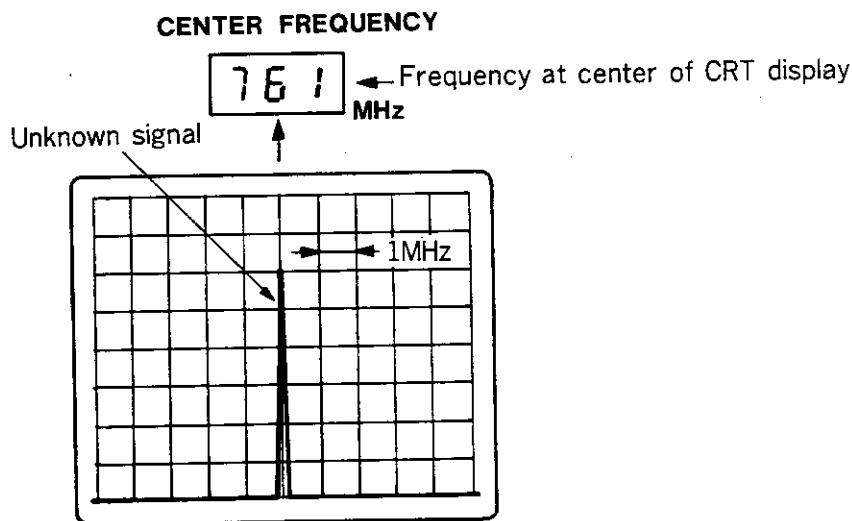

Fig. 2-13 Absolute Frequency Measurement Procedure
- c) Rotate **TUNING** to position the spectrum to be measured to the **CENTER** of CRT display. The frequency of unknown signal is now indicated on **CENTER FREQUENCY** display. The error is  $\pm 10\text{MHz}$ . [Fig. 2-13]
- (2) Measurement relative to Zero Frequency